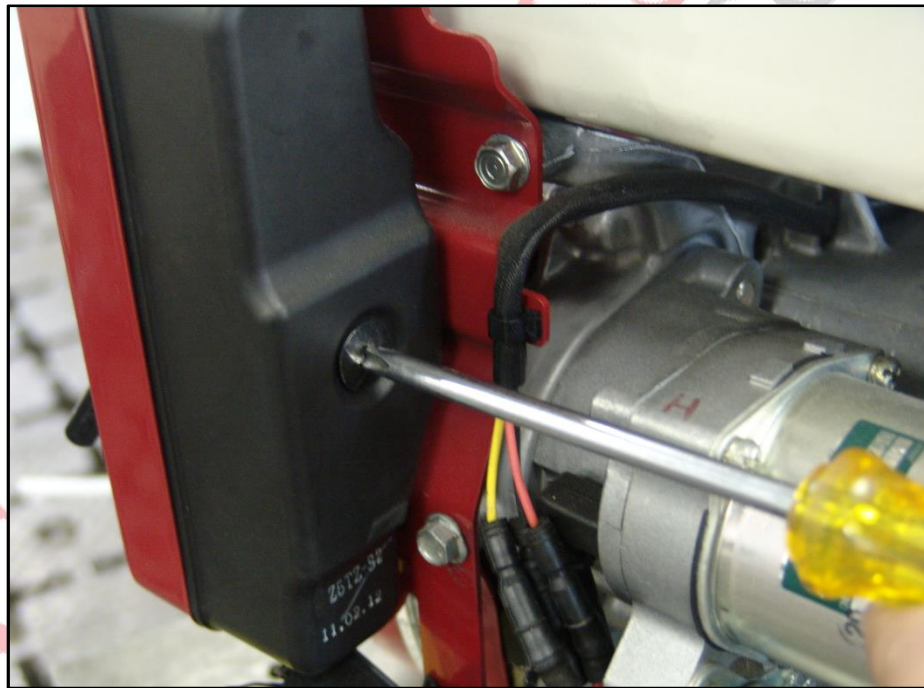

Figure 3
- a) Remove the Phillips head screw holding the black plastic cover on the back of the key switch box See Figure 3.